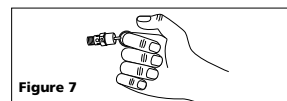

Figure 7
1. Pull ring on safety valve and allow the ring to snap back to normal position (See Figure 7). This valve automatically releases air if the tank pressure exceeds the preset maximum.